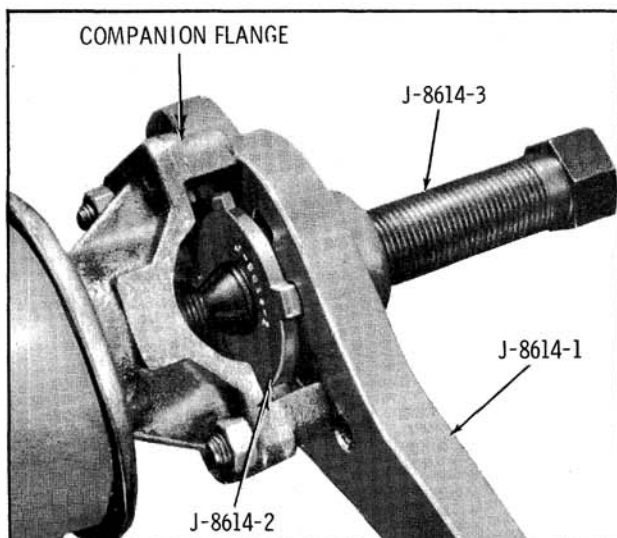

Fig. 10-2 Removing Companion Flange
5. Remove companion flange using Puller J-8614-02. (Fig. 10-2)
5. Remove washer then remove companion flange using Puller J-8614-02. (Fig. 10-2)